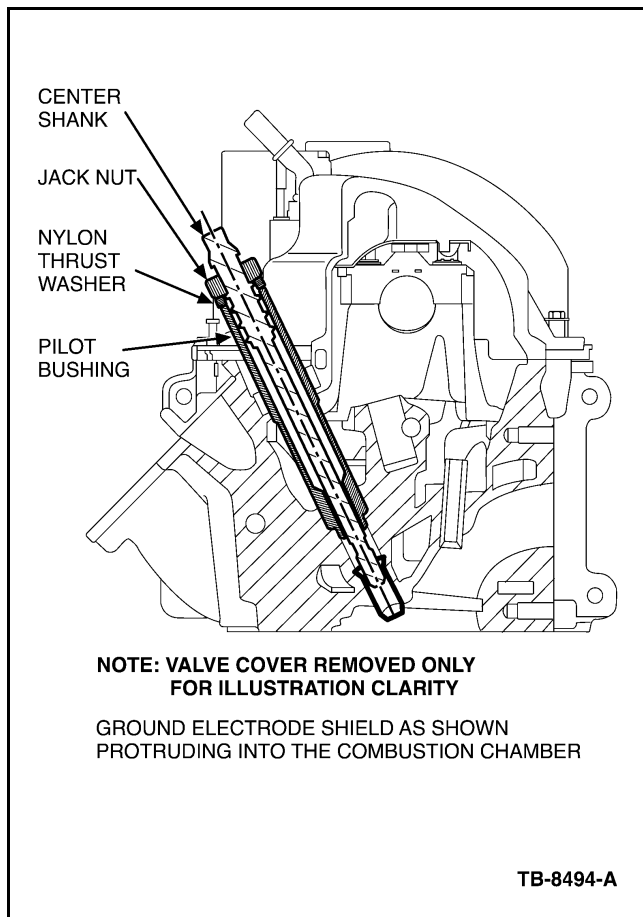
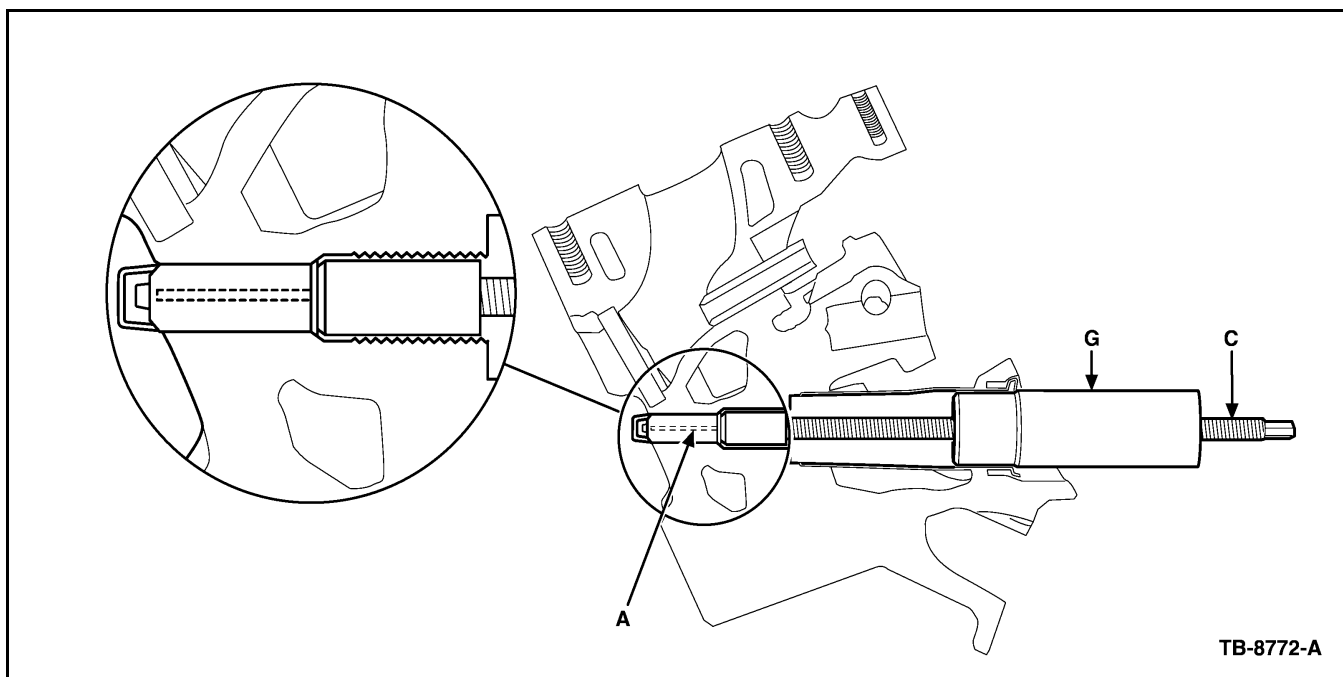

Figure 9 - Article 08-7-6
Figure 19 - Article 08-7-6
4. Thread Rotunda special service tool 303-1203 into the ground electrode shield. (Figure 9)
10. Leave the pin fully inserted in the porcelain while the adhesive cures. Replace the steel tool pilot with the aluminum alignment sleeve (G), Figure 9, to support the threaded rod while the adhesive cures if additional porcelain fragments are present in other cylinders. (Figure 19).